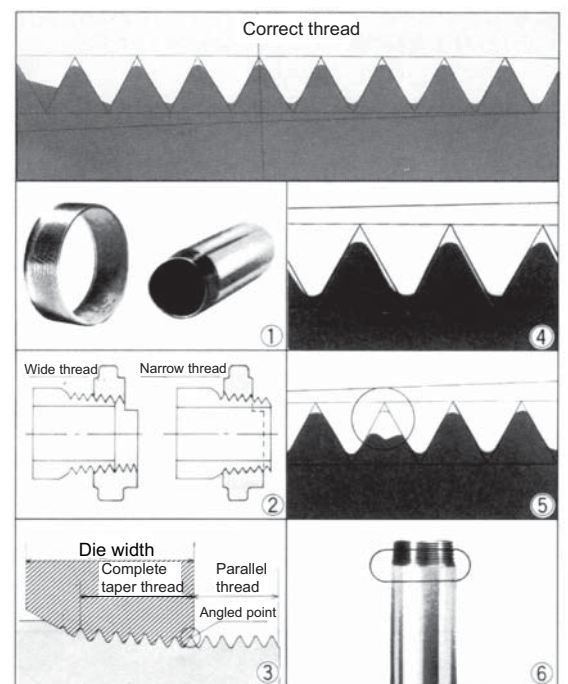

Fig. 46
- Irregular shaped threads (Fig. 46 - 1)
- The diameter of the thread is too small or too large (Fig. 46 - 2)
- Distorted threads (in the case of manual die heads) Fig. 46 - 3)
- Threads are too small (Fig. 46 - 4)
- The thread is chipped (Fig. 46 - 5)
- Thread with uneven thickness (Fig. 46 - 6)